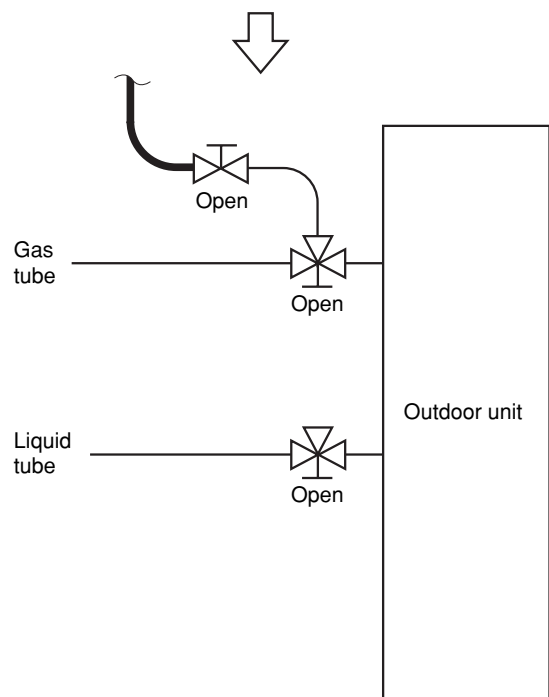

Fig. 8-6
- If the additional refrigerant charge amount cannot be charged at once, charge the remaining refrigerant in liquid form by using the gas tube service valve with the system in Cooling mode at the time of test run. (Fig. 8-6)